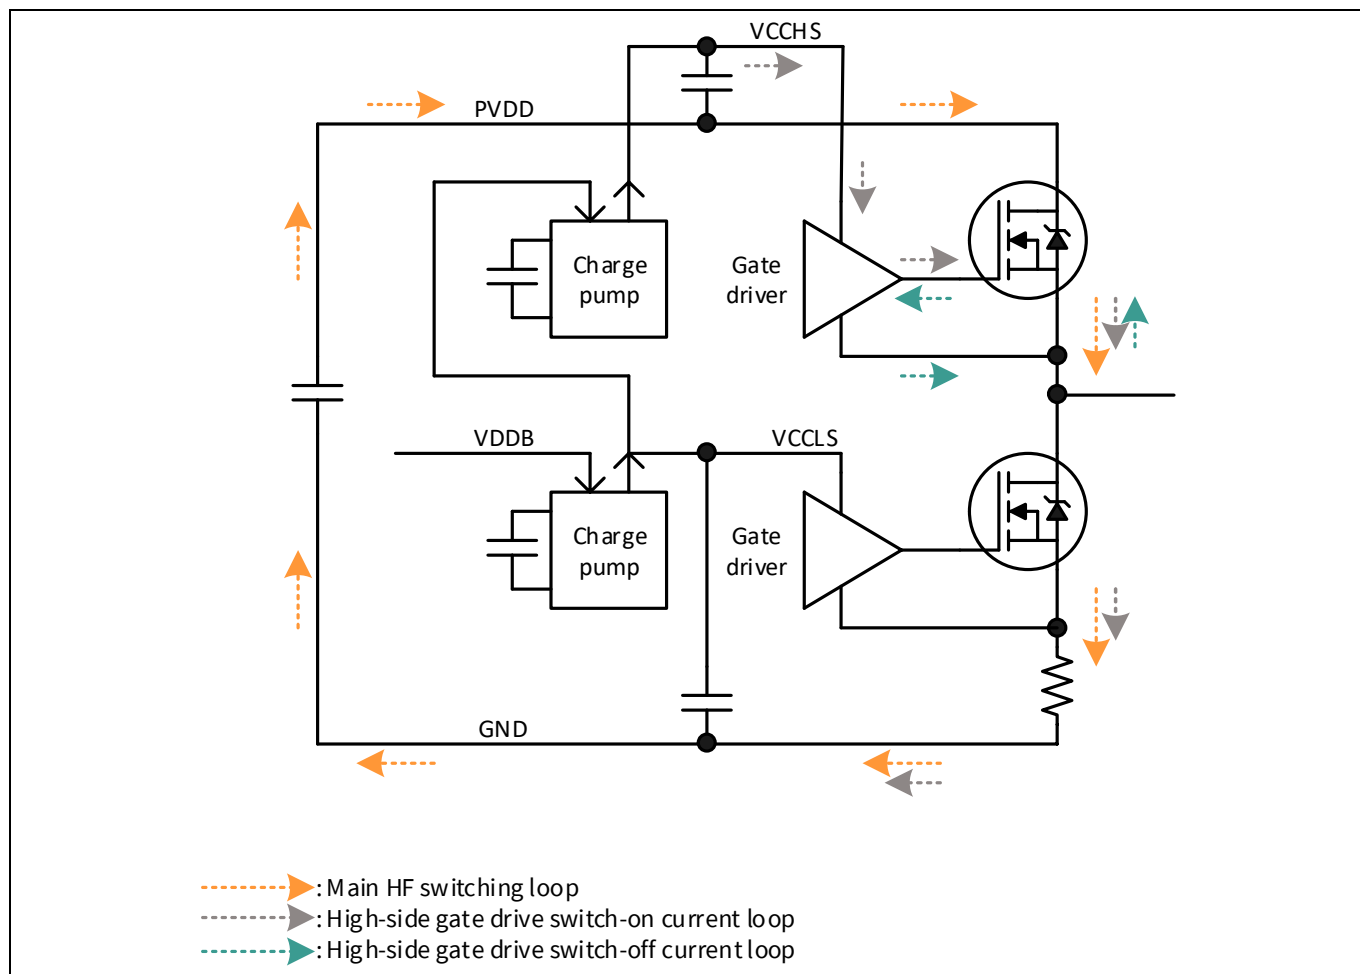

Figure 20 HF current loop for one phase
The PCB layout is optimized to minimize radiated EMI. This is done by keeping the loops carrying the switching currents as small as possible. The high frequency (HF) switching current loops are illustrated in Figure 20. Note that during the switching transition, the high-side gate drive loop current returns to the main ground rather than back to the gate driver as in a conventional high-side driver. Because this is the case, the high-side gate drive loop should also be kept as tight as possible. The bottom layer connects the DC bus to the top-side MOSFET drains and at the same layer returns the MOSFET current via the CS shunt. The switching loop for each phase begins and ends at the electrolytic capacitor and HF decoupling capacitors.